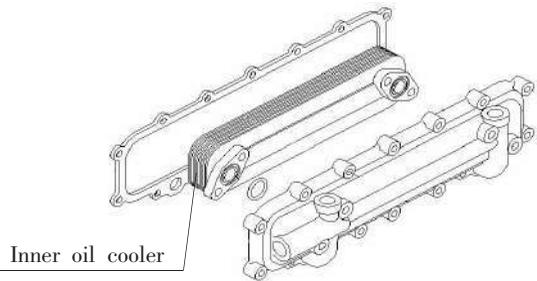

Fig 5-39 Inner-oil Cooler Installation
4.7 The inner-oil cooler is used in four cylinder diesel engines with double-shaft balance system and 6N series engines. Insert seals into seal grooves of oil coolers. Align two oil orifices of cover board with oil cooler, screw bolts and tighten them, install cover board with gasket on cylinder block. Retighten the belts from middle to each side (see Fig 5-39).